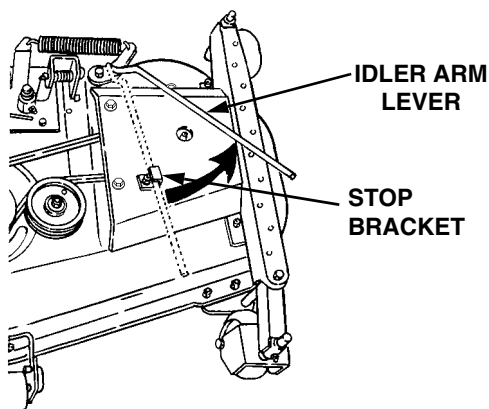

Figure 35
12. Disengage the deck idler arm lever from its stop bracket and release the spring tension by rotating the lever out and rearward (See Figure 35).